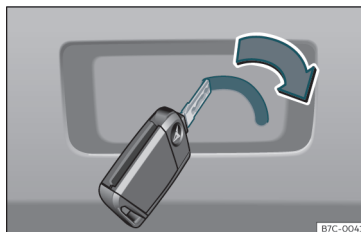

Fig. 8 Luggage compartment: manual release.
- To unlock the rear lid, push the lever in the direction of the arrow using the key blade >>> **Fig. 8**.